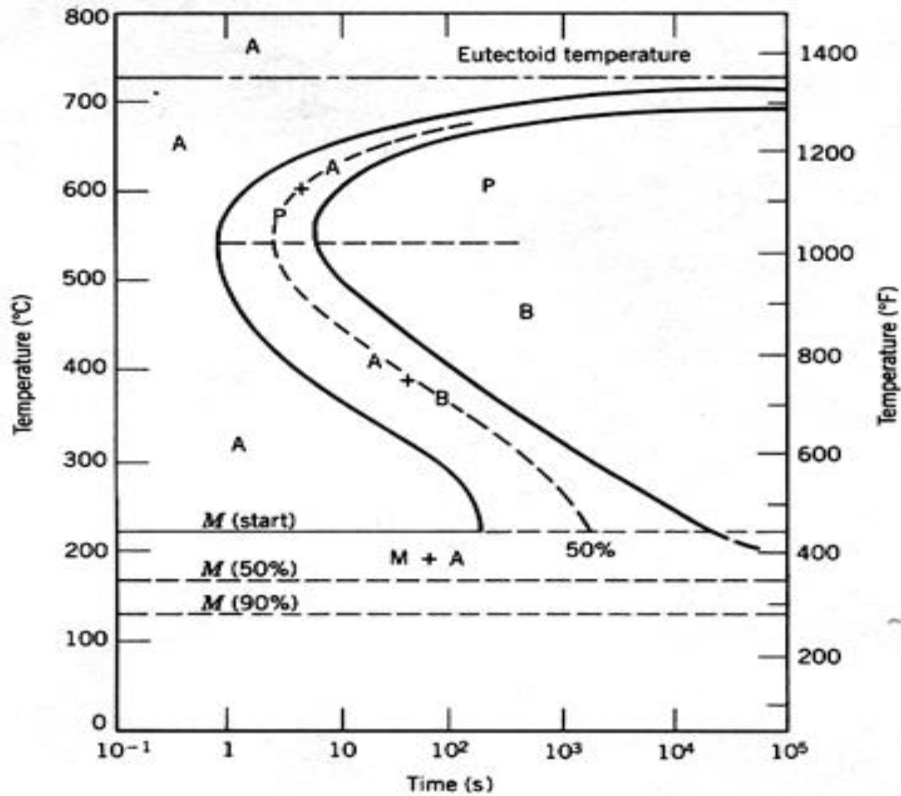

Figure Q6: Isothermal transformation diagram for eutectoid composition
- (c) Using the isothermal transformation diagram (Figure Q6 on Page 4) for eutectoid composition shown below, specify the nature of the final microstructure of a specimen that has been subjected to the following time-temperature treatments. In each case assume that the specimen begins at 760^o C and that it has been held at this temperature long enough to have achieved a complete and homogeneous austenitic structure.